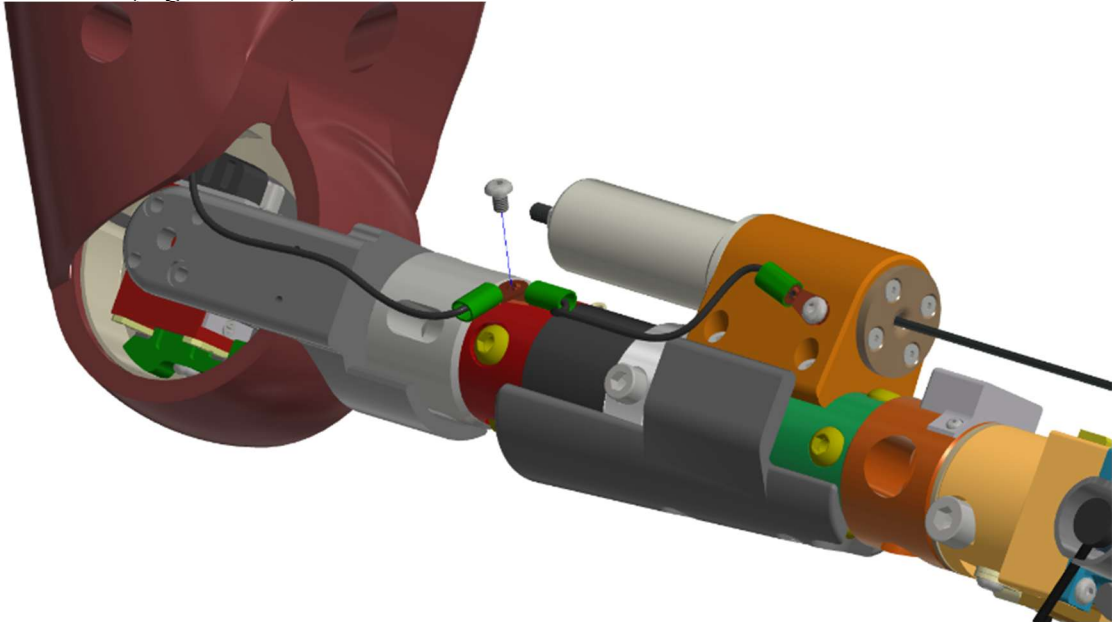

Figure 9-14. Remove the ground cable connecting the lower leg to the Femur Load Cell
9.2.7 Remove the ground cable connecting the lower leg to the Femur Load Cell (Figure 9-14).